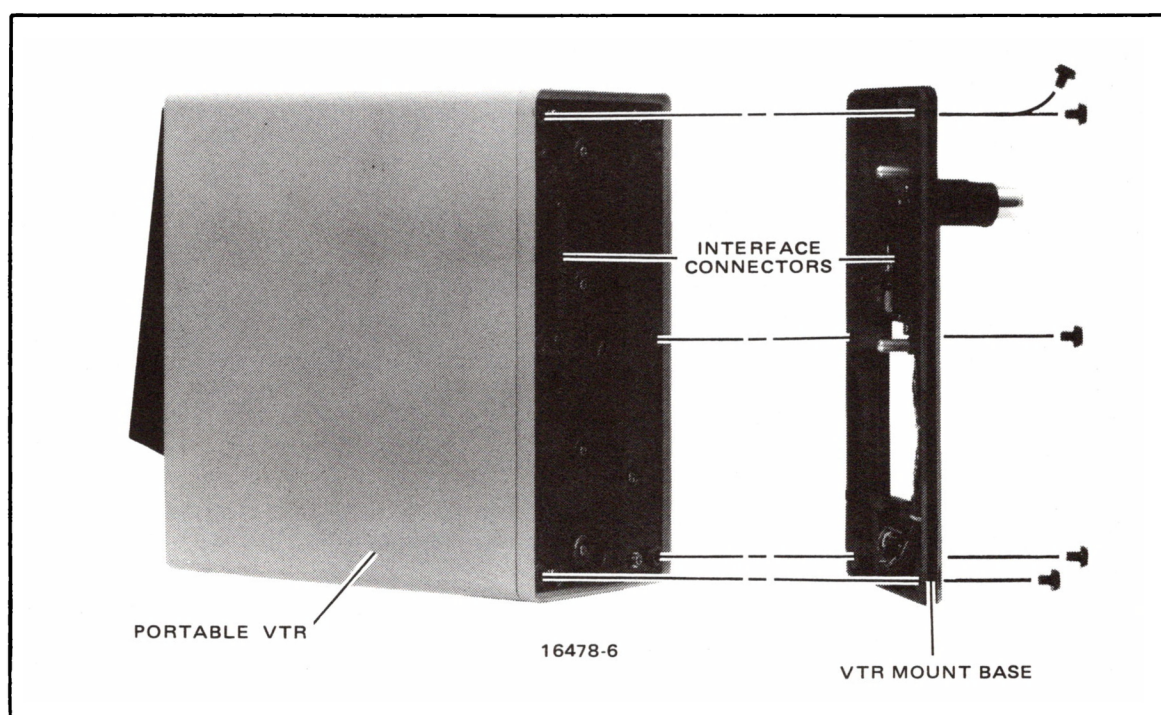

Figure 2-2. Attaching VTR Mount Base to Portable VTR
- STEP 2 Align the interface connectors of the VTR and VTR mount base and join them together (see Figure 2-2).